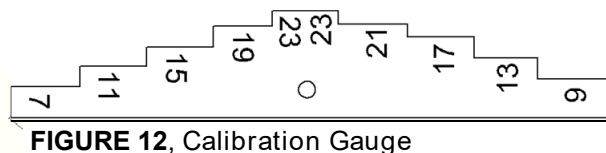
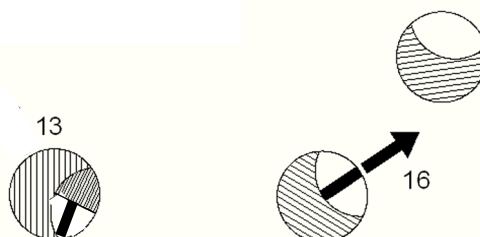

FIGURE 12, Calibration Gauge
FIGURE 13, Spreader Setting
- Open the Hopper and using the Calibration Gauge (**FIGURE 12**) provided with the machine as shown in **FIGURE 13**, set the center hole opening to **16**. Position the Rate Adjustment Knob against the Hopper Lever and tighten the knob.
- Without changing the Rate Adjustment Knob setting, open the Third-hole and insert the Calibration Gauge, orientated as shown in **FIGURE 13**, in the Third-hole.